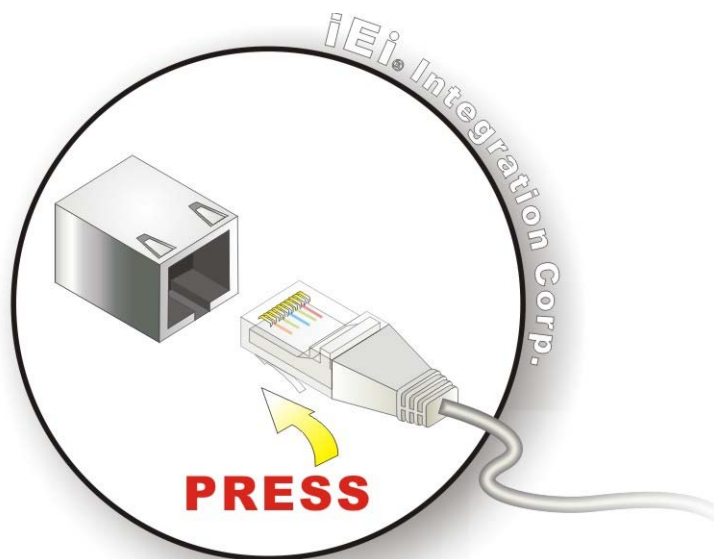

Figure 4-16: LAN Connection
Step 2: **Align the connectors.** Align the RJ-45 connector on the LAN cable with one of the RJ-45 connectors on the IMBA-Q670. See **Figure 4-16**.